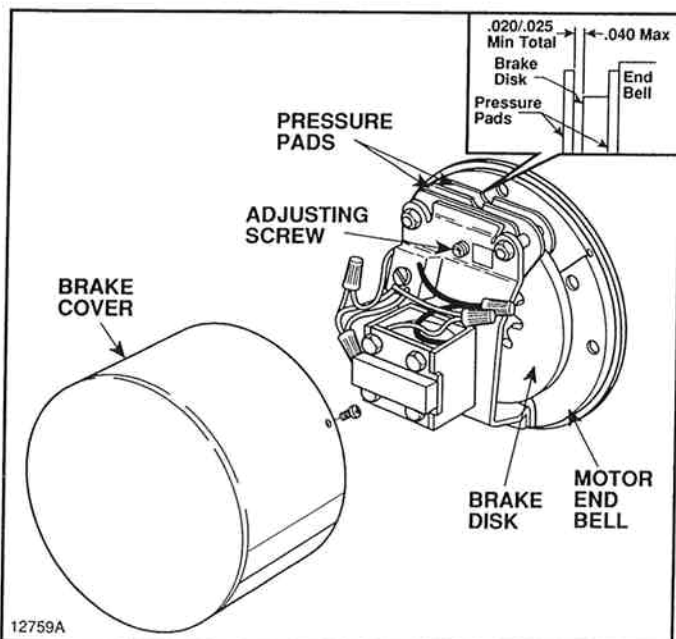

Figure 7-32. Hoist Motor Brake – Early Version.
(1) Brake Adjustment. Adjust brake if clearance between pressure pad and brake disc is more than .040" (see fig. 7-32) or if brake is drifting.
(2) Tools Required.
(a) Minimum clearance between pressure pad and brake disc is .020" to .025" (see fig. 7-32). Set feeler gage between .020" and .025" and place between pressure pad and brake disc. Use 1/8" hex key on adjusting screw (located above solenoid coil). Stop turning adjusting screw when contact is made with the pressure pad. Remove feeler gage.